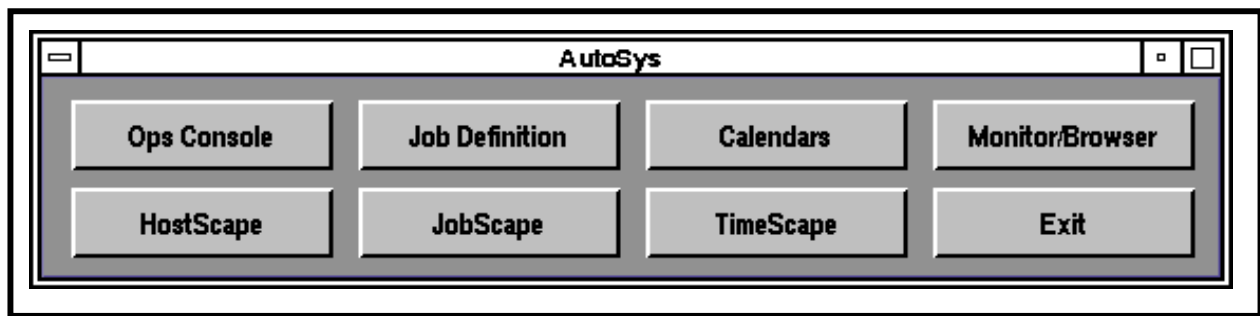

Figure 53. AutoSys GUI Control Panel
- The **AutoSys GUI Control Panel** (Figure 53) is displayed.
The procedure for selecting jobs to be displayed on AutoSys/AutoXpert GUIs assumes that AutoSys has been launched and the **AutoSys GUI Control Panel** (Figure 53) is being displayed.